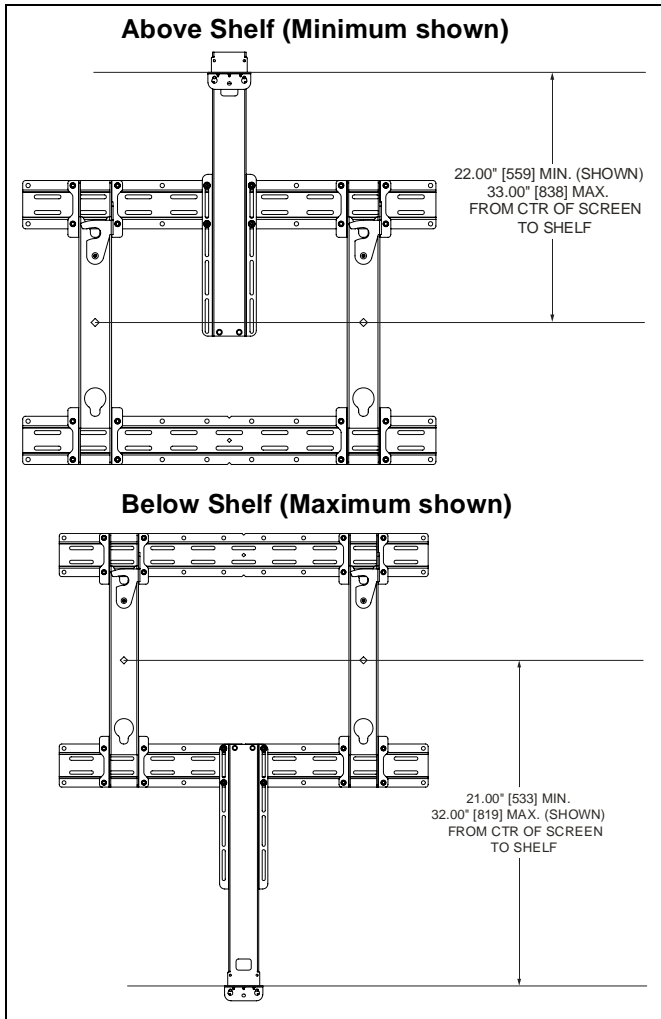

Figure 1
1. Measure height of display to be mounted from center of screen to desired shelf height. Use this distance to determine which holes to use to mount PSMA800 to PSMH. (See Figure 1)